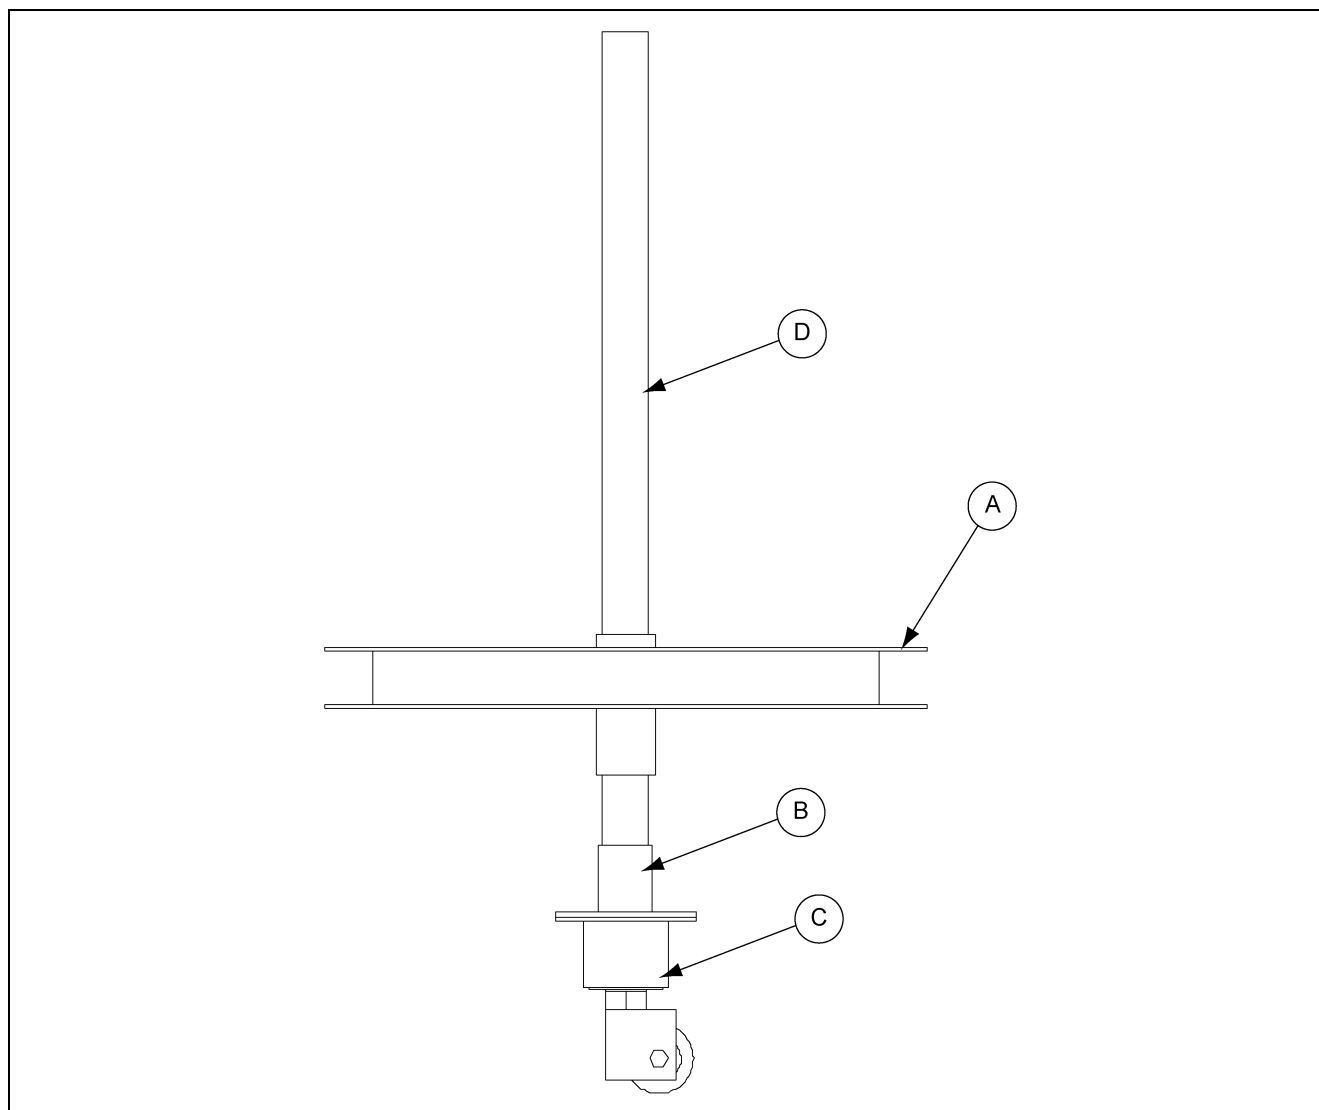

**Figure 5B**
Once the top cable wheel (A) has been installed the next piece to assemble is the coupler connector weldment (C). This piece threads onto the threads of the distributor control pipe (B) as shown in Figure 5B below. Make sure the coupler connector weldment is secured to the distributor control pipe.